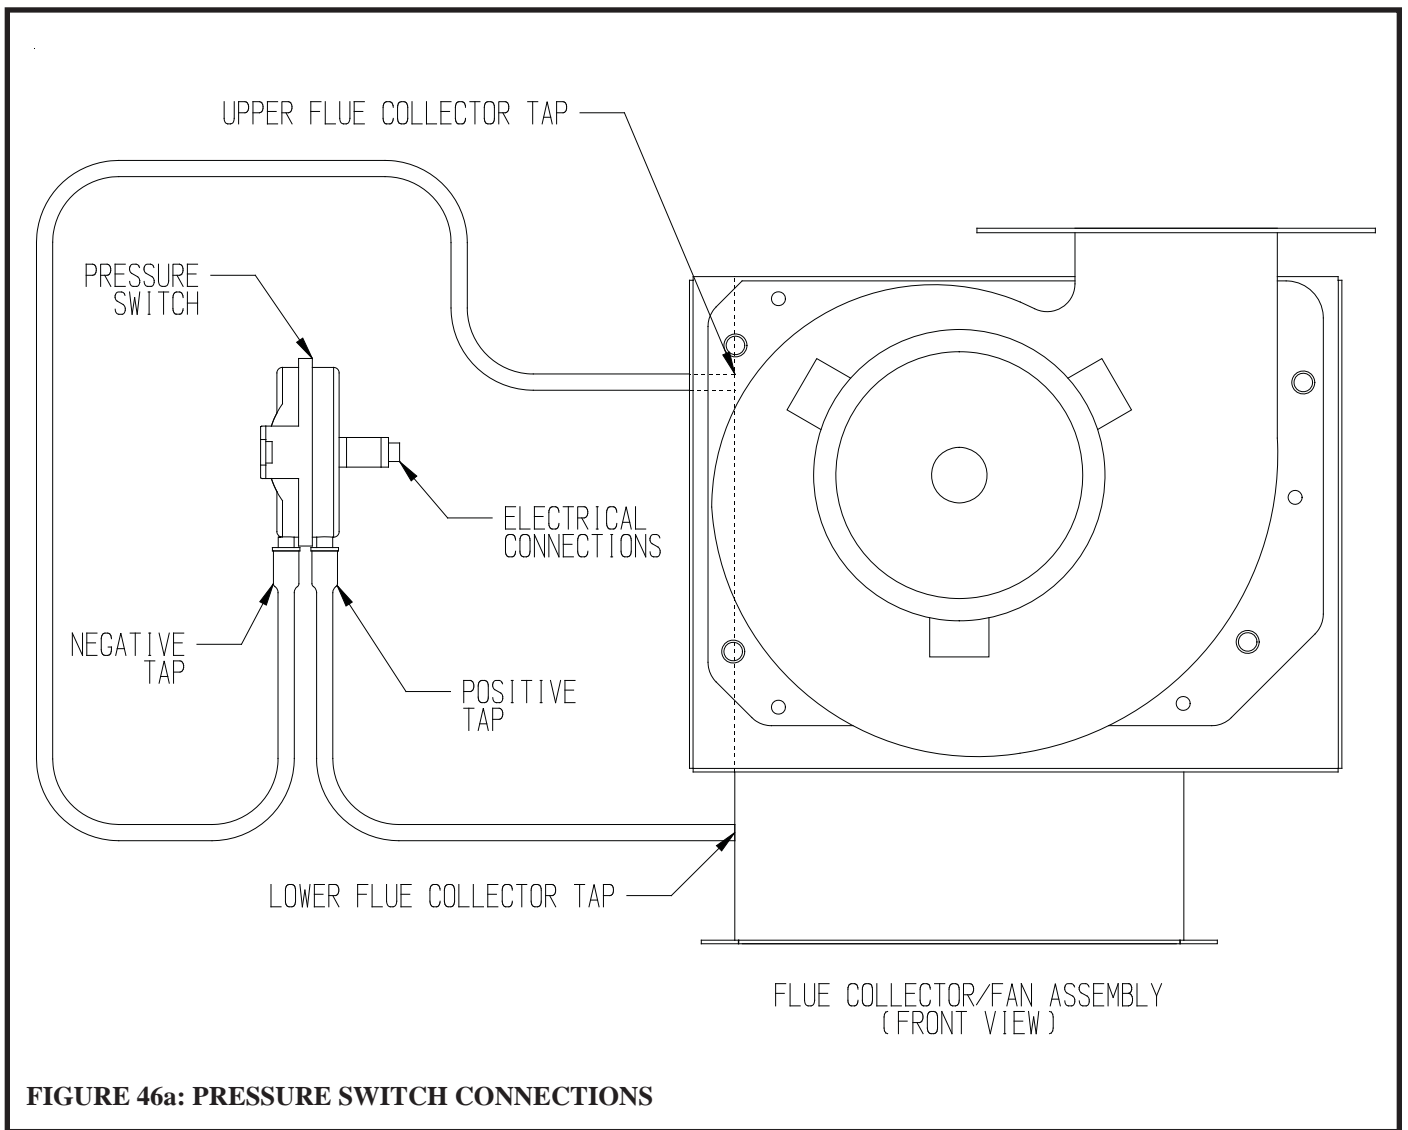

FIGURE 46a: PRESSURE SWITCH CONNECTIONS
- 3) Pressure Switch – This boiler is equipped with a differential pressure switch which makes when there is adequate flue gas flow through the boiler. This switch measures the pressure drop across an orifice plate inside the flue collector - the higher the flue gas flow through this plate, the higher the pressure drop. The N.O. contacts on the pressure switch make, allowing the boiler to fire, when the pressure drop across the flue collector orifice plate switch exceeds the “make setting” shown in Table 7. Once the switch is made, the boiler will fire as long as the pressure at the switch is above the “break setting” shown in Table 7. The pressure at both pressure switch tappings is actually below atmospheric (“negative”) with the pressure at the upper flue collector tap being the more negative of the two pressures. Figure 46a shows the pressure switch connections.